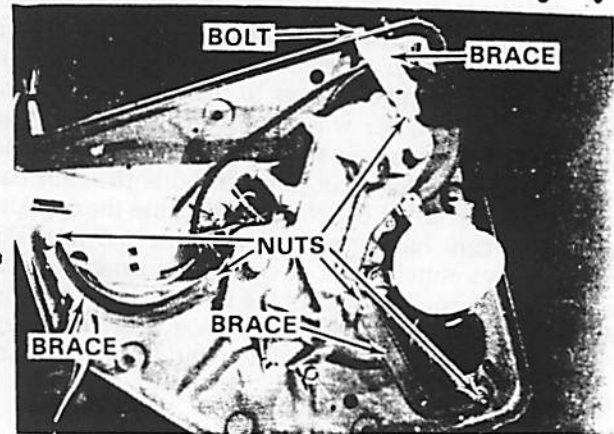

Fig. 17. Support brace removal.
6. Remove the gearcase support braces attached to both the gearcase and baseplate, as shown in Fig. 17. **NOTE:** It is important for proper machine function that these braces be reinstalled during reassembly. Noise and damage to the machine can otherwise result.